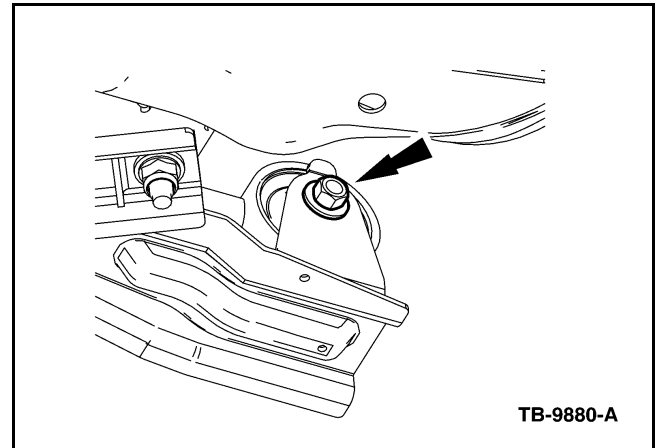

Figure 2 - Article 09-22-19
3. Remove the rear roll restrictor-to-crossmember through bolt. (Figure 2)
6. Install the rear roll restrictor-to-crossmember through bolt. Tighten to 66 lb-ft. (90 N•m). (Figure 2)